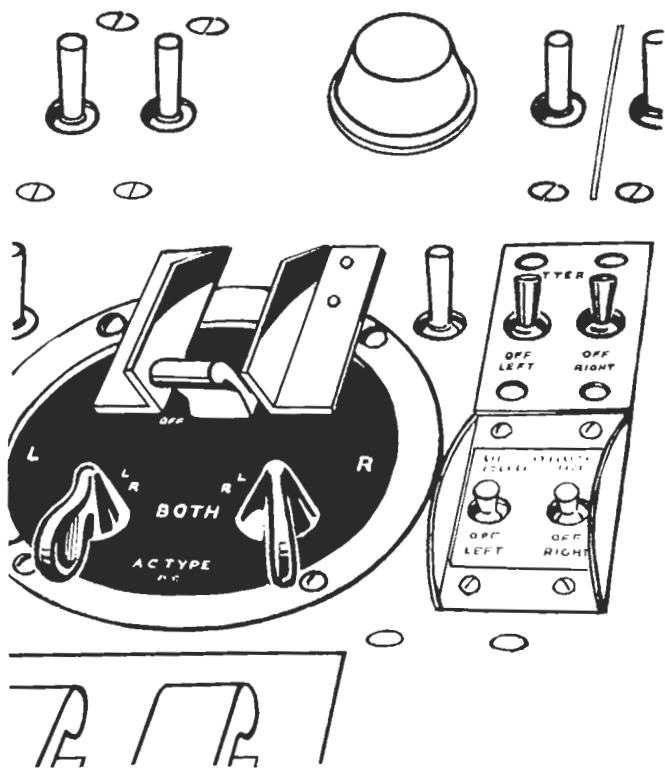
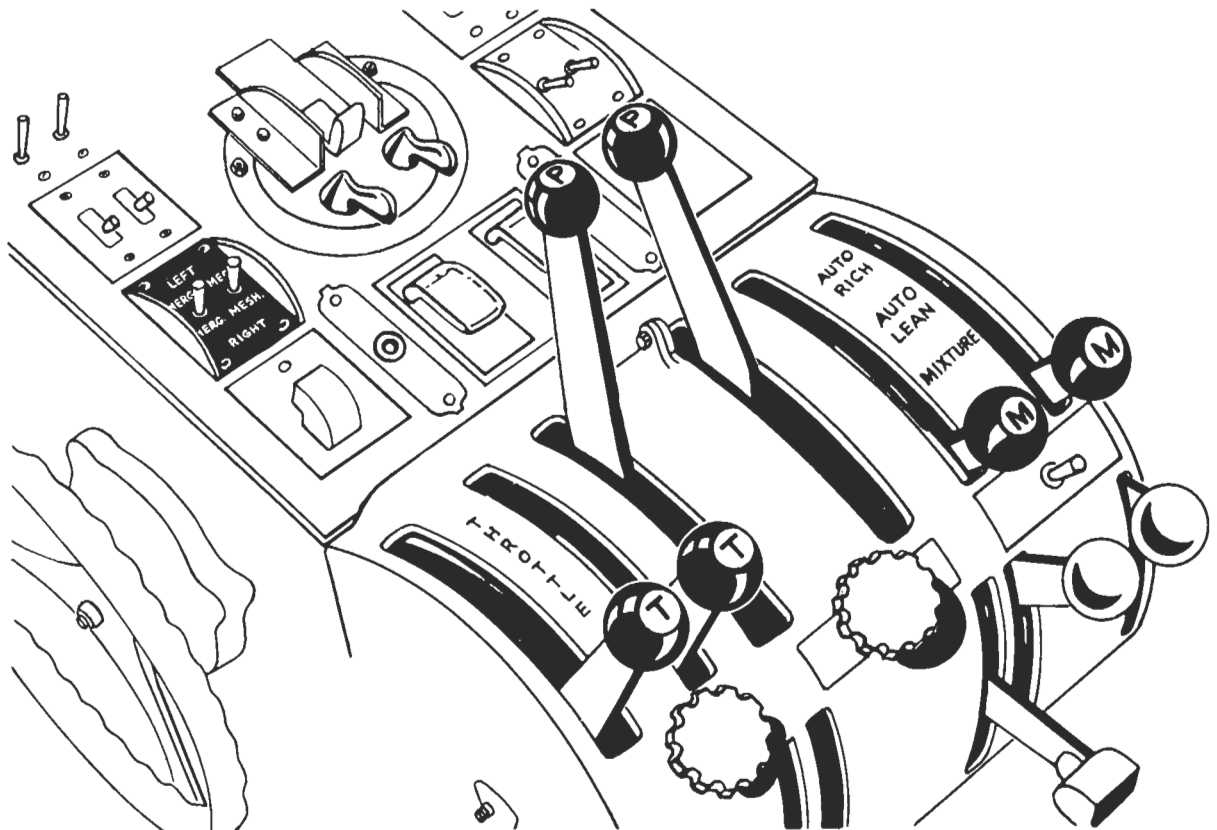

Figure 45—Master, Ignition, and Battery Switches
Figure 52—Pilot's Controls and Switches Before Starting Engine
(See figure 45.)
(1) Set throttles approximately 3/4 inch open for starting. (See figure 52.)
(2) See that propellers are clear, ground crew notified, and fire guard posted.
(3) Turn master switch "ON." (See figure 45.)
(4) Turn left ignition switch to "BOTH" magnetos. (See figure 45.)
(8) Turn fuel booster pumps "OFF."
(9) Turn battery switches "ON" and have outside power source disconnected. (See figure 45.)
a. Leave mixture levers in "AUTO RICH." (See figure 52.)